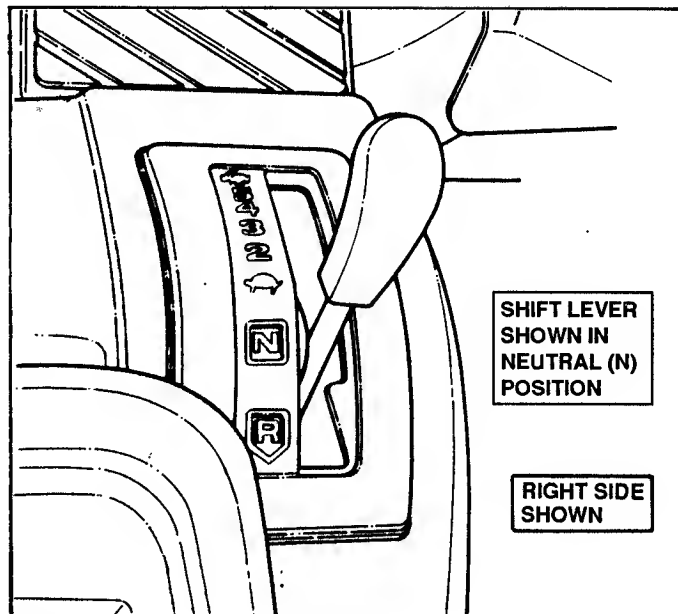

FIGURE 6
1. With **CLUTCH/BRAKE pedal** depressed, shift **SPEED SELECTOR** to 1 for forward or R for reverse and release pedal. (For comfort and safety, always shift back to 1 before starting forward). See Figure 6.